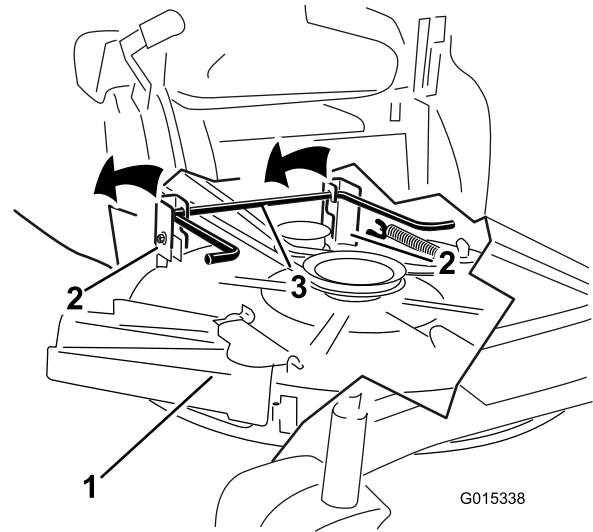

Figure 55
5. Lift the mower deck and hanger brackets clear of the rear lift rod and lower the mower carefully to the ground (Figure 55).
- Lift the rear of the mower deck and guide the hanger brackets over the rear lift rod (Figure 55).